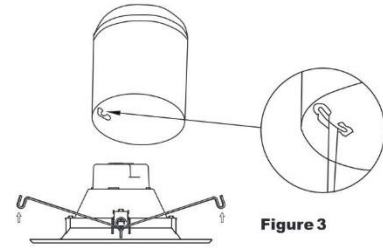

Figure 3
Step 4. Press the torsion springs on either end of the trim into the eyelets on the interior of the housing. (Figure 3)